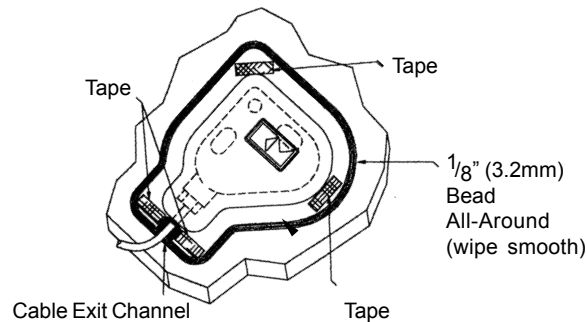

Figure 4-11. Environmental Cover
- See Figure 4-11. Peel the protective backing from the double-sided tape on the environmental cover's inside flange.